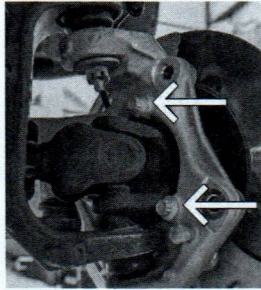

Figure 7. Wheel Bearing/Hub Bolts (x3)
- Remove the wheel bearing bolts from the back side of the steering knuckle (12-point 13mm). See **Figure 7**.